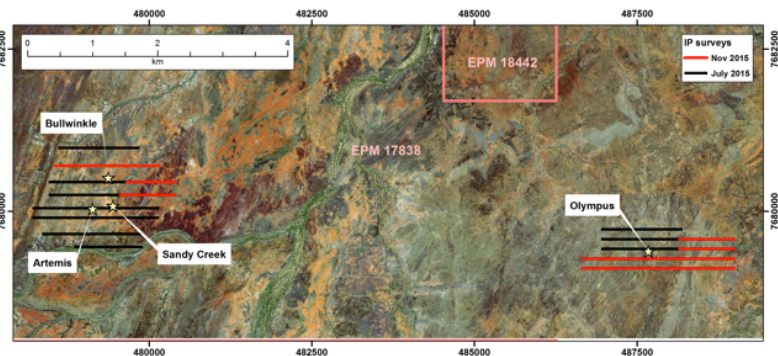

Figure 1: Artemis - Sandy Creek - Bullwinkle and Olympus prospects with completed IP survey lines over satellite image
A second induced polarisation (IP) geophysical survey has been completed at the Eloise copper project, southeast of Cloncurry. The new IP follows up highly encouraging results from the mid-year survey¹ where anomalies were defined but remained open at Artemis, Bullwinkle and Olympus. The location of new data from the Artemis - Sandy Creek - Bullwinkle and Olympus targets are shown in Figure 1 and Table 1.
Eight east-west lines spaced at 150 to 250m intervals now cover the Artemis - Sandy Creek - Bullwinkle copper-gold-zinc prospect area. New data was collected on one line over the Bullwinkle anomaly and on two line extensions east of Bullwinkle and Sandy Creek (Figure 1).
Five east-west lines spaced at 150m intervals now cover the Olympus prospect area. New data has been collected on two eastern line extensions and on two new lines south of those collected previously (Figure 1).